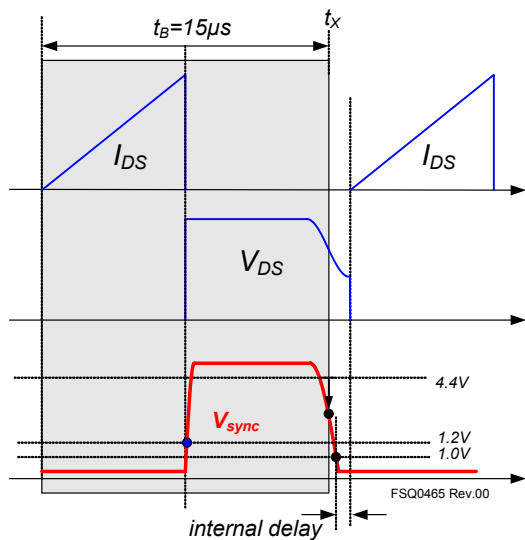

**Figure 24. Quasi-Resonant Switching Waveforms**
**3. Synchronization:** The FSQ-series employs a quasi-resonant switching technique to minimize the switching noise and loss. The basic waveforms of the quasi-resonant converter are shown in Figure 25. To minimize the MOSFET's switching loss, the MOSFET should be turned on when the drain voltage reaches its minimum value, which is indirectly detected by monitoring the  $V_{CC}$  winding voltage, as shown in Figure 24.